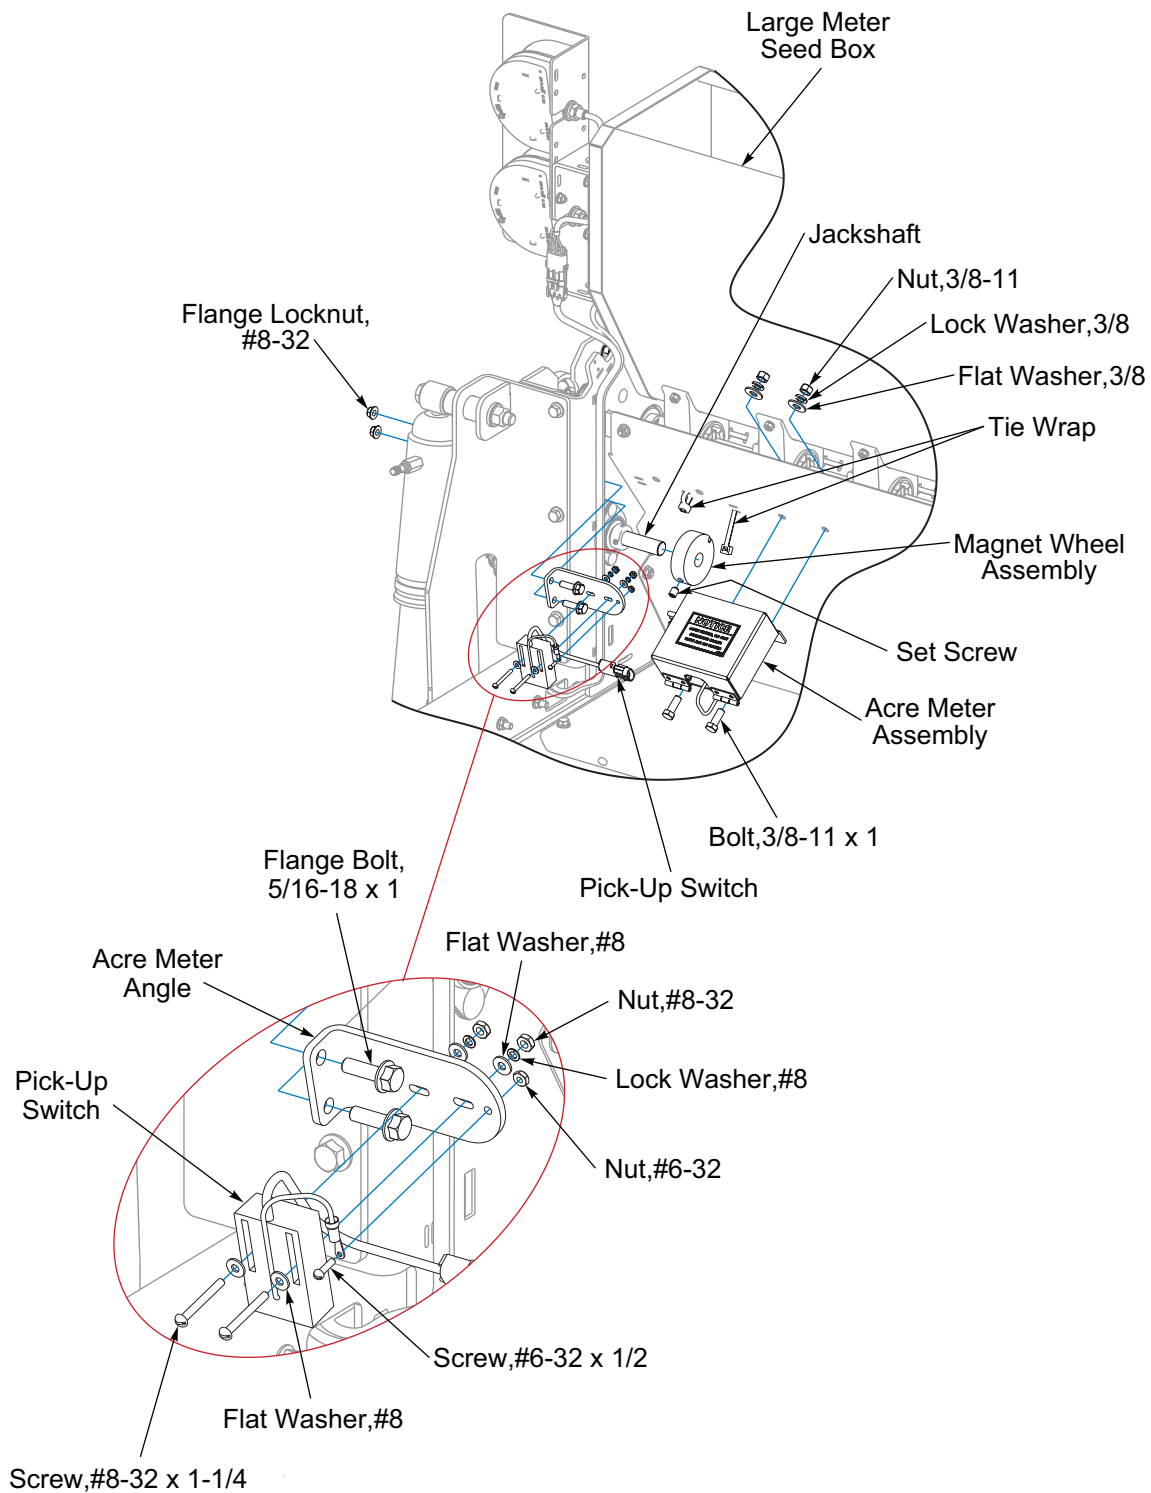

Figure 2-15: Acre Meter with Micro-Meter and Large Meter Seed Boxes
1. Install Acre Meter Angle to LH Support with 5/16-18 x 1 Flange Bolts and Locknuts. See Figure **See Figures 2-15 and 2-16.**
Attach the Acre Meter Assembly to the Large Meter Seed Box Rear Deflector with 3/8-16 x 1 Bolt, Flat Washer, Lock Washer and Nut. **See Figure 2-15.**